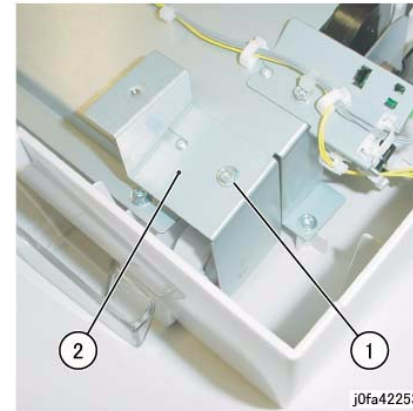

Figure 2 Removing the Front Bracket
8. Remove the front Bracket (Figure 2):